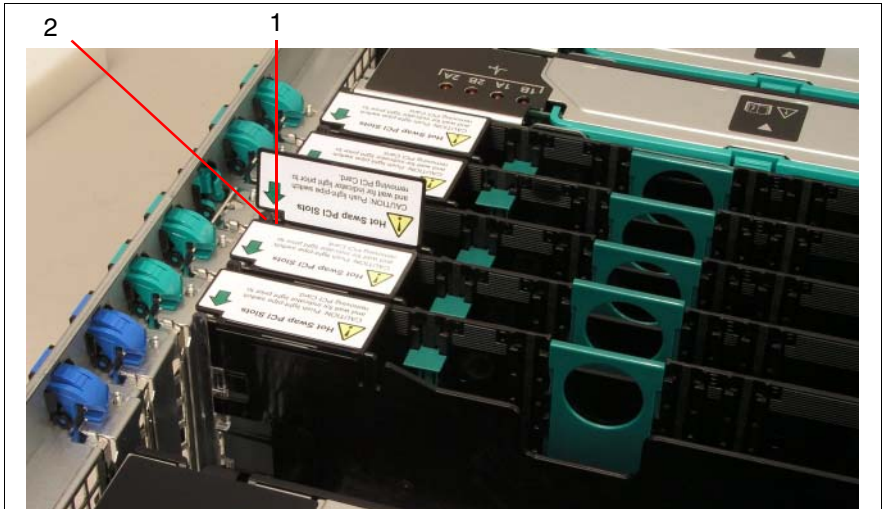

Figure 32: Deactivating a PCI board
- ▶ Deactivate the PCI board using by pressing the attention button (1, see figure 32) on the board.
- ▶ Press the attention button (1, see figure 32 on page 90).